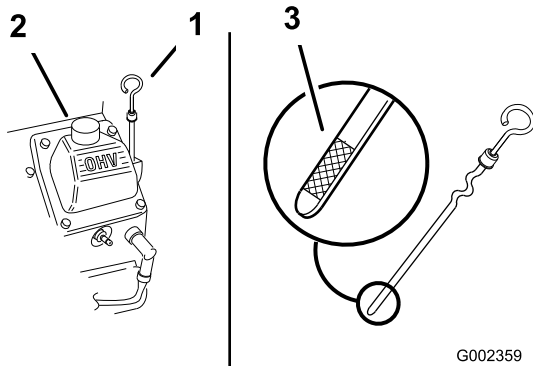

Figure 23
3. Clean around the oil dipstick (Figure 23) so that dirt cannot fall into the hole and damage the engine.
4. Remove the oil dipstick and wipe the end clean (Figure 23).
5. Slide the oil dipstick fully into the filler tube (Figure 23).
6. Slowly pour approximately 80% of the specified oil into the filler hole (Figure 23).